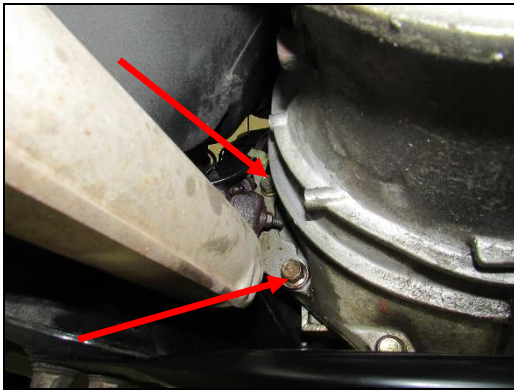

Figure 2
4. Locate the bellhousing bracket and remove the (x2) 17mm head nuts. Unplug the O2 sensor and remove (x3) 14mm head nuts at the flange. Remove the front pipe (**Figures 2 & 3**).